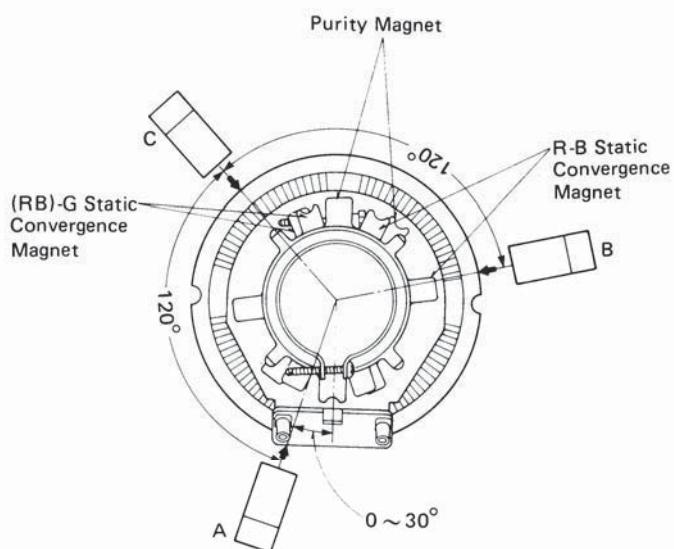

Figure 14
7. Secure the deflection yoke by reinserting the wedges. (See figure 14.)
1. Wedge A shown in figure 14 should be fixed within a range of  $0^\circ \sim 30^\circ$  to the left of the vertical line as shown.